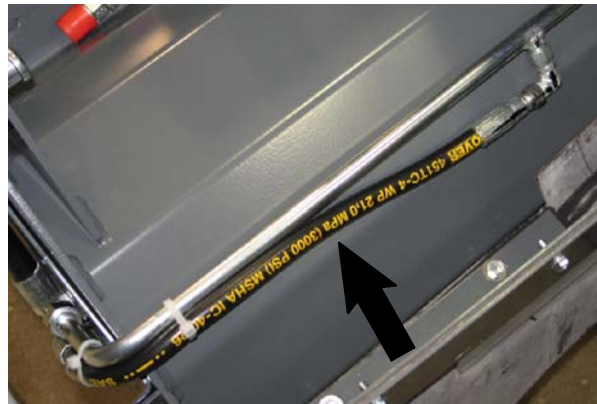

FIG. 6
8. Route the 20" hydraulic hose (2) along the brush return tube (5) and attach the hose to the 90° fitting (3) on the brush return tube. Refer to Fig. 6.